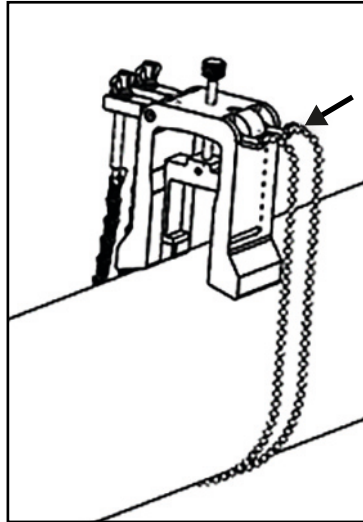

Figure 37: Yoke Chains Secured
3. Wrap the yoke chains around the pipe and secure them to the yoke bracket, as shown in *Figure 37* below.